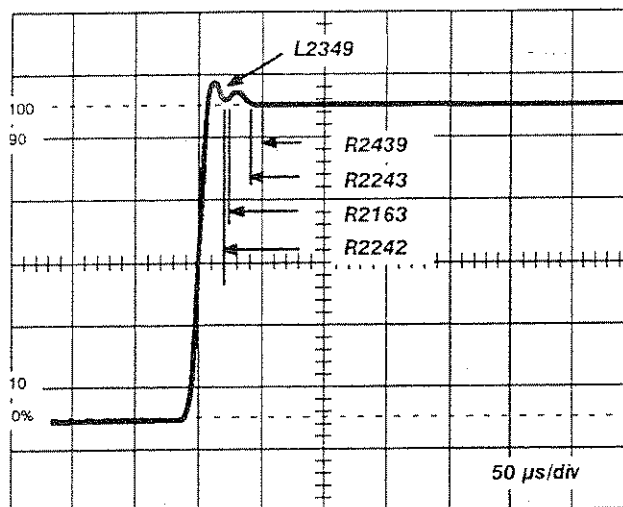

Figure 5-3: Portions of waveform affected by mid-frequency adjustments.
- i. Adjust R2439 (R2939) and R2163 (R2862) for a flat-topped square wave. R2439 (R2939) affects the first 50 μ s of the pulse. R2163 (R2862) affects the first 25 μ s of the pulse. Readjustment of C4040 (part 2e) may be necessary at this point for the best overall leveling of the square wave. See figure 5-3.
- j. Adjust R2242 (R2742), R2243 (R2743), and L2349 (L2849) for the squarest waveform corner. R2242 (R2742) affects the first 20 μ s; R2243 (R2743) affects the first 40 μ s; L2349 (L2849) affects the bottom of the dip at 30 μ s. See figure 5-3.